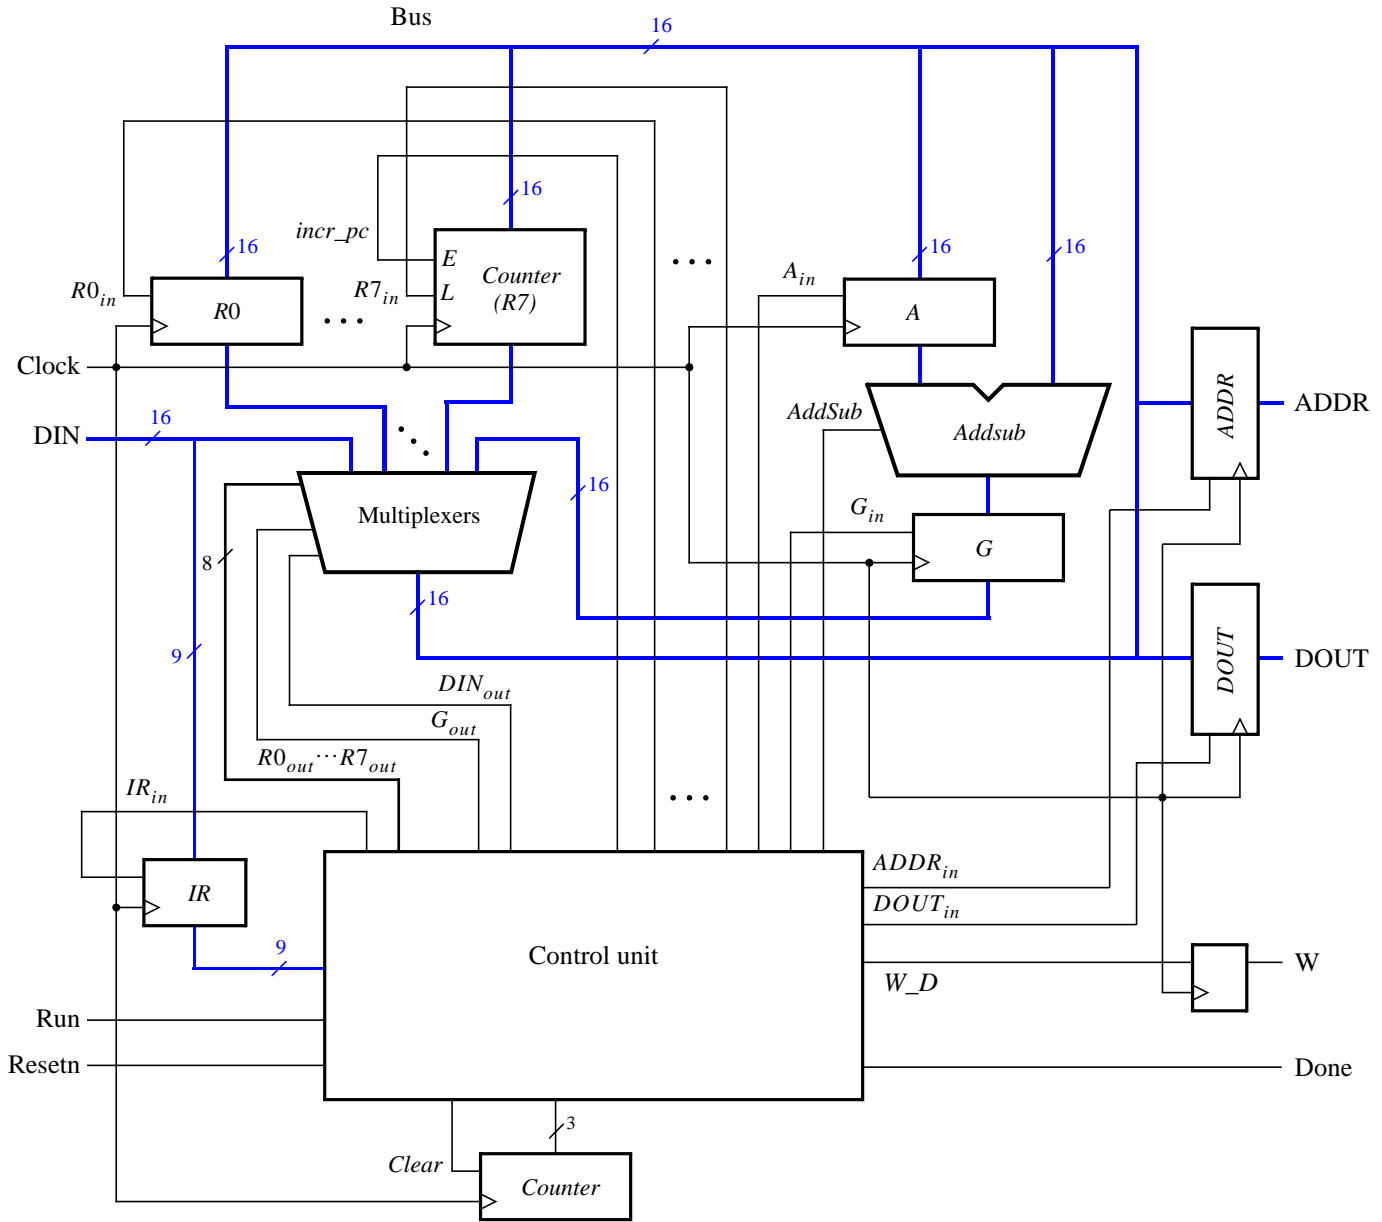

Figure 7. An enhanced version of the processor.
A schematic of the enhanced processor is given in Figure 7. In this figure, registers *R0* to *R6* are the same as in Figure 1 of Laboratory Exercise 9, but register *R7* has been changed to a counter. This counter is used to provide the addresses in the memory from which the processor's instructions are read; in the preceding lab exercise, a counter external to the processor was used for this purpose. We will refer to *R7* as the processor's *program counter (PC)*, because this terminology is common for real processors available in the industry. When the processor is reset, *PC* is set to address 0. At the start of each instruction (in time step 0) the contents of *PC* are used as an address to read an instruction from the memory. The instruction is stored in *IR* and the *PC* is automatically incremented to point to the next instruction (in the case of **movi** the *PC* provides the address of the immediate data and is then incremented again).
Figure 7 shows two registers in the processor that are used for data transfers. The *ADDR* register is used to send addresses to an external device, such as a memory module, and the *DOUT* register is used by the processor to provide data that can be stored outside the processor. One use of the *ADDR* register is for reading, or *fetching*, instructions from memory; when the processor wants to fetch an instruction, the contents of *PC* (*R7*) are transferred across the bus and loaded into *ADDR*. This address is provided to memory. In addition to fetching instructions, the processor can read data at any address by using the *ADDR* register. Both data and instructions are read into the processor on the *DIN* input port. The processor can write data for storage at an external address by placing this address into the *ADDR* register, placing the data to be stored into its *DOUT* register, and asserting the output of the *W* (write) flip-flop to 1.